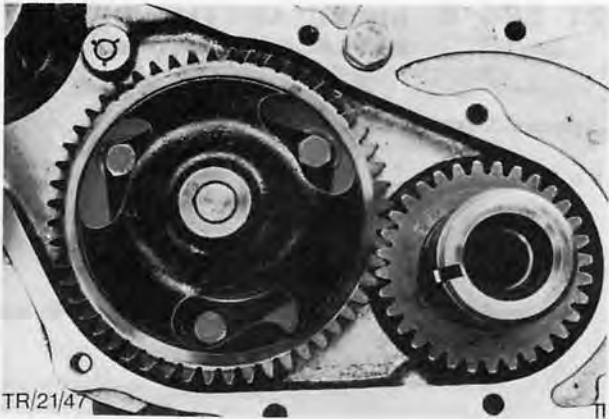

Fig. 166. Remove oil pump
2. Remove oil pump complete with mounting from engine block (3 bolts), Fig. 166.